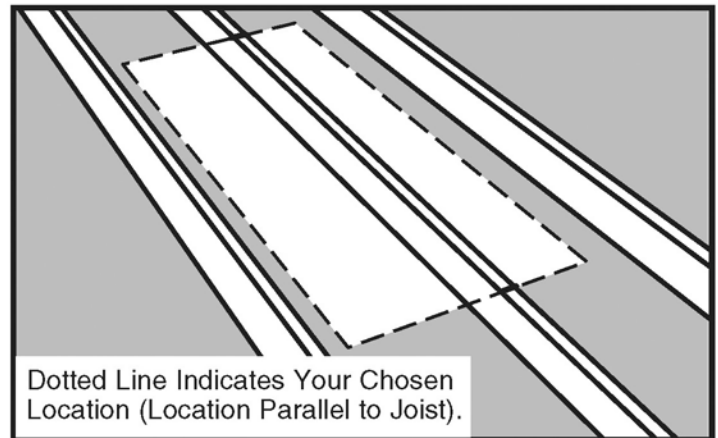

Figure 7
(A) If the chosen location is parallel to the joists, mark the rough opening length on top of the joists (See Figure 7). Do not cut the joist at this mark.